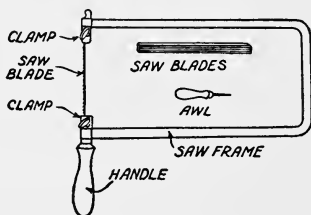

FIG. 8. A SIMPLE AND CHEAP SCROLL SAWING OUTFIT
**A Cheap Scroll Sawing Outfit.**—The simplest and cheapest scroll sawing outfit consists of (a) a *scroll saw frame*; (b) a dozen *saw blades*, and (c) an *awl*, all of which are shown in Fig. 8. If it is your